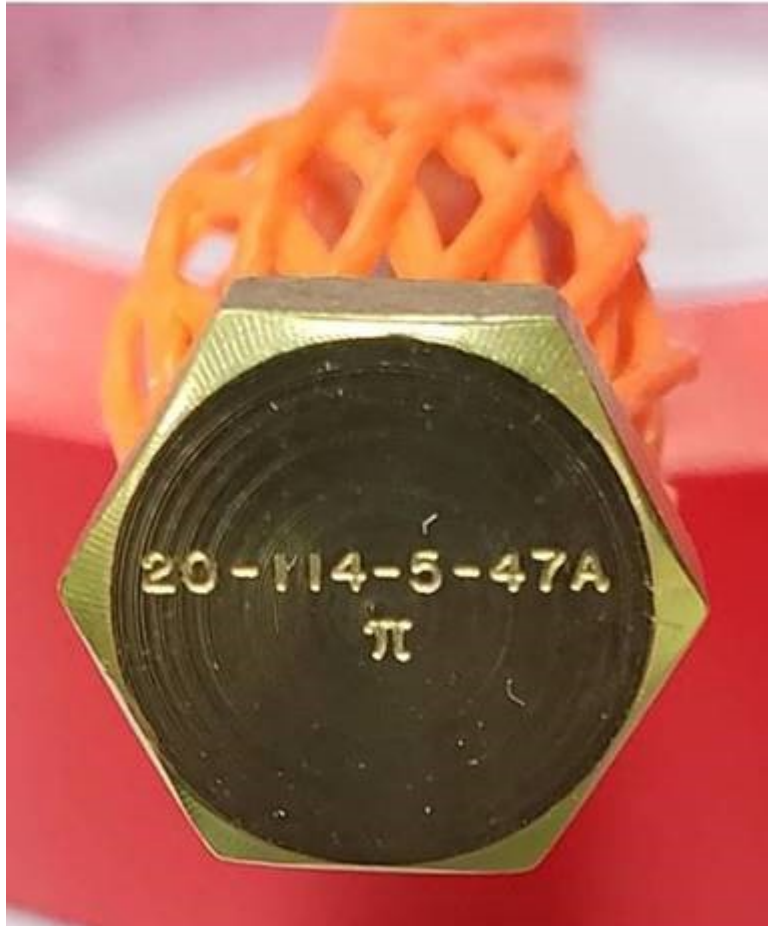

Figure 1 – Example of Main Rotor Pitch Link Upper Retention Bolt 20-114C5P47AD with the “ π ” (pi) symbol visible.
2. Remove the corrosion preventative compound from the four (4) main rotor pitch change link upper retention bolt heads and inspect to identify the bolts:
- a. If the bolt head has a “**π**” (pi) symbol (Figure 1), remove (DMC-429-A-62-30-00-00A-520A-A) and proceed to step 3.